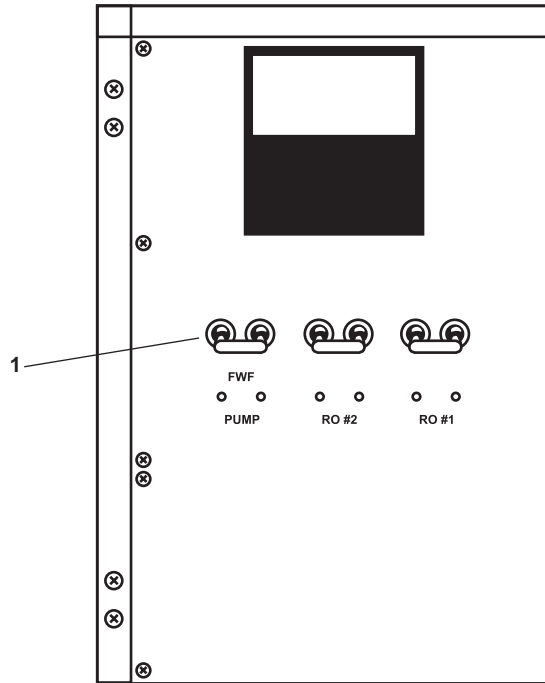

Figure 1. 24 Vdc Control Panel
1. Set to OFF, lock out, and tag out (FM 55-502) the FWF PUMP circuit breaker (figure 1, item 1).